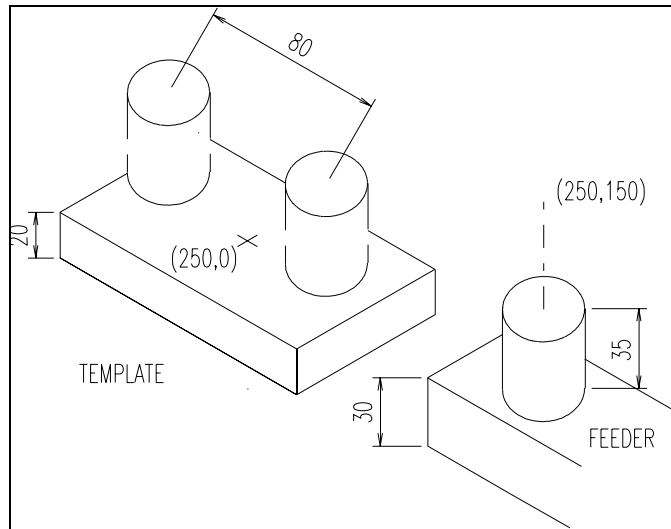

Figure 7-3
- Q** *According to Figure 7-3, the distance between the center of the two cylinders placed on the template is 80 mm. This value was used to calculate the distance from position #1 to position #2.*